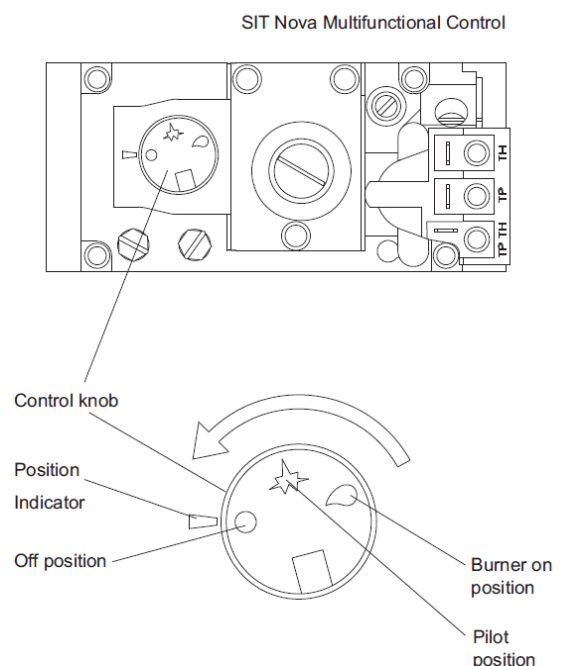

Figure 1
Situated at left side of MFC, the control knob is set correctly when appropriate symbol is alongside position indicator. (*See Figure 1*)
- Push control knob in and turn to pilot position. (See Figure 1)
- Turn control knob to BURNER ON position (Figure 1) and check burner lights.
Return control knob to pilot position (*Figure 1*). This will extinguish main burner whilst leaving pilot lit.
Push control knob in and turn to OFF position. (*Figure 1*)
When work is completed, return control knob to pilot position (*See Figure 1*) leaving pilot lit if required.